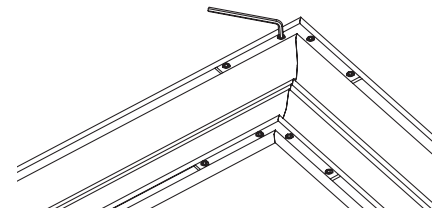

Figure 6
- ③ Secure connectors by tightening setscrews (see Fig. 6).